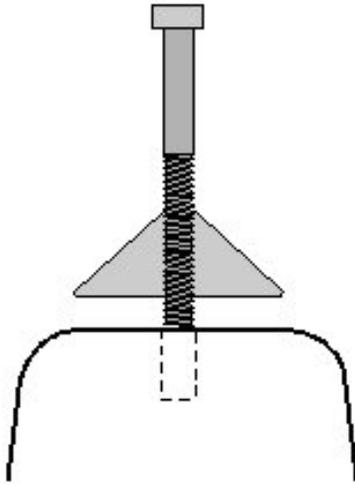

Figure 1
- c. Lightly coat the threads of the  $\frac{5}{16}$ " x 3" Anchor Bolt (FKB-16) with silicone grease and screw it into the Alignment Cone until it protrudes approximately  $\frac{1}{4}$ " beyond the flat surface (figure 1).